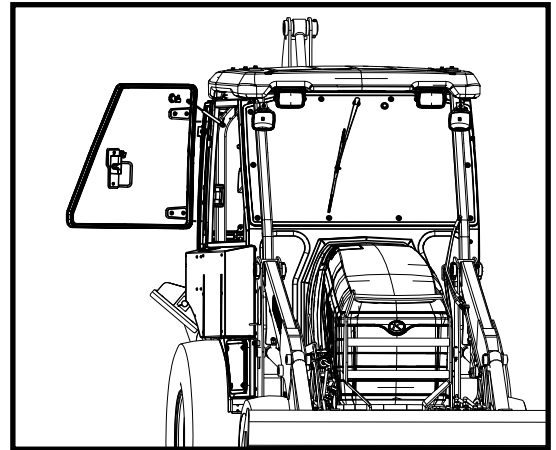

Figure 17.3a: Right Door
- 17.3 Hang each door onto the forward pins on each side frame. Open the door to slightly and attach a gas shock onto the ball studs on the door and frame, with the quick-release end on the frame. (See Figures 17.3a and 17.3b)